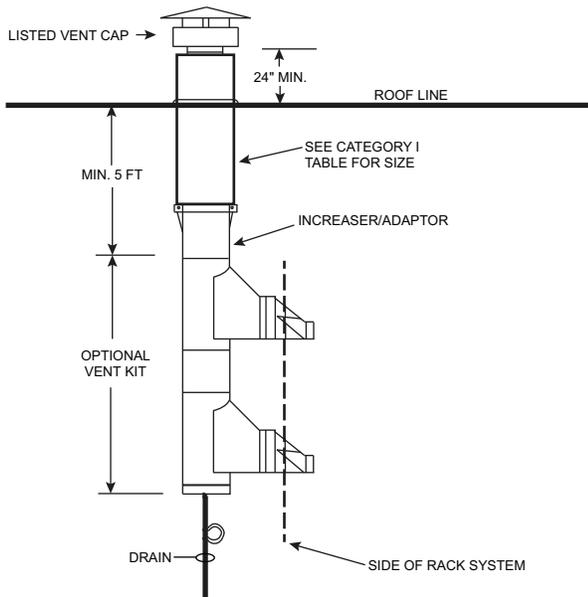

Fig. 164 — Category 1 Indoor Vertical Vent System
- See Fig. 164 for Category 1 indoor vertical vent system.